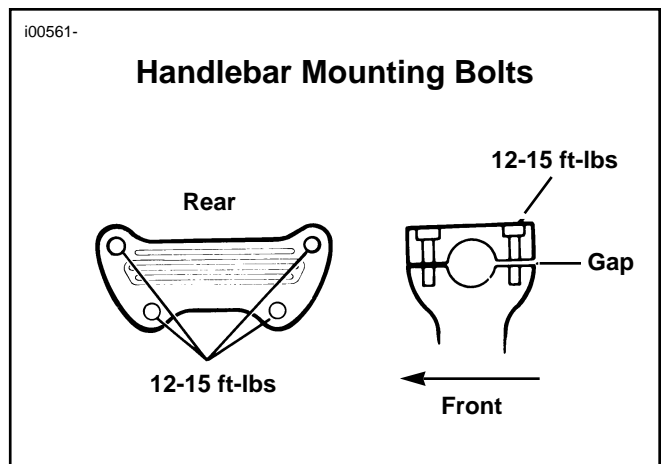

Figure 7. Handlebar Mounting
- See Figure 7. Adjust the handlebar to the normal riding position. While holding the handlebar, tighten the rear screws to 12-15 ft-lbs.